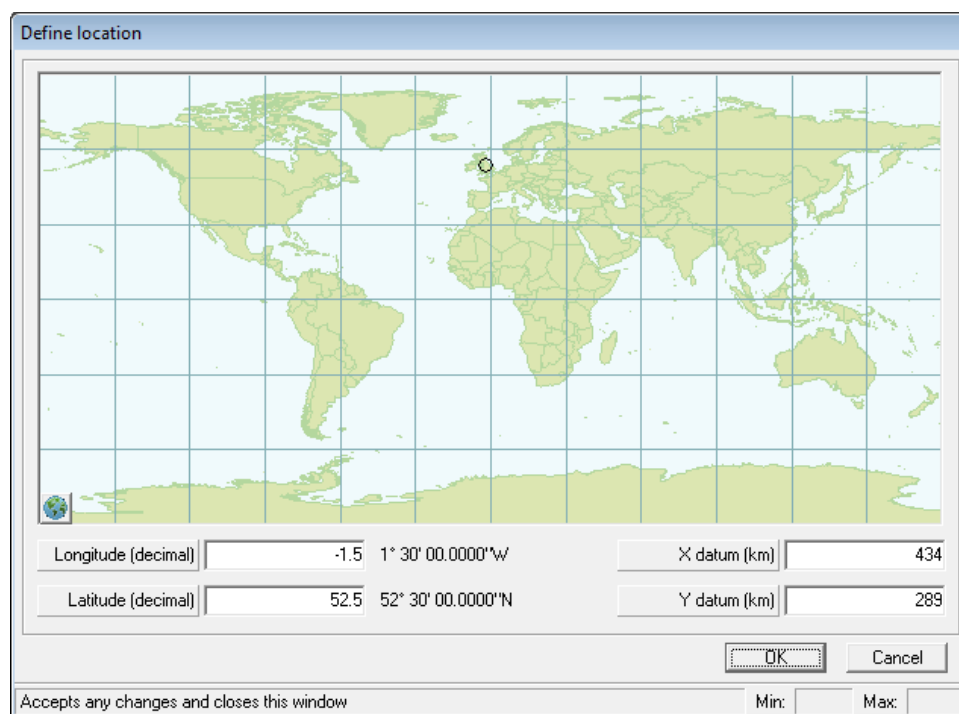

Figure 7.2 - Example 1: the **Define location** sub-screen.
Step 6 Enter the longitude, latitude and X,Y datum values shown in **Figure 7.2**. You can click the  button to view this location in Google Maps³. Click **OK** to return to the **Source** screen.